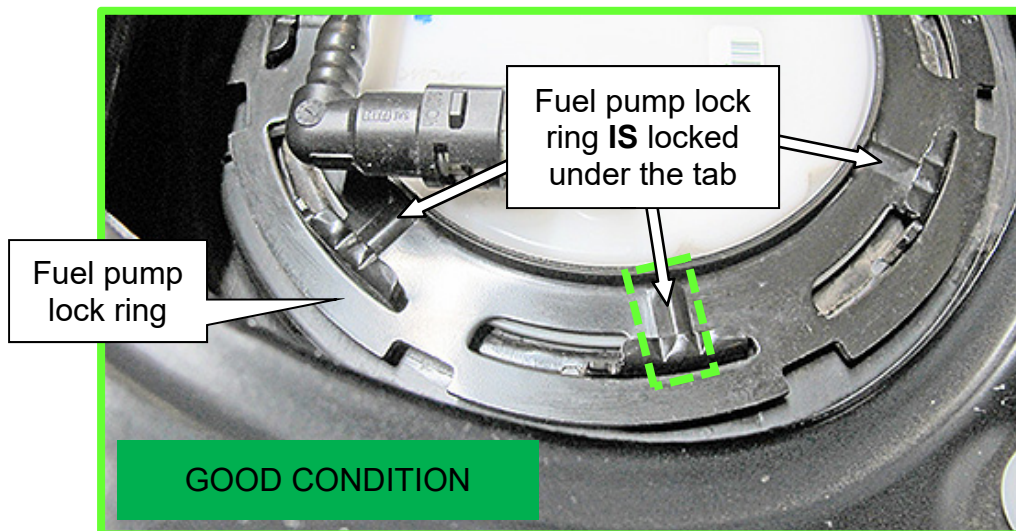

Figure 7
- Is the lock ring correctly locked in place as shown in Figure 7 on page 5?
- Verify fuel pump lock ring is locked to the fuel tank (see Figure 7).